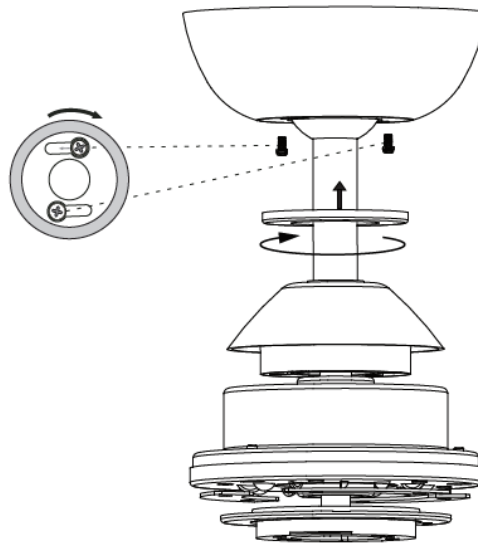

Fig. 13
- Loosen the two screws at the bottom of the mounting bracket by half a thread. **(Fig. 13)**
- Slide the canopy up to the mounting bracket and align the key holes on the canopy with the screws on the mounting bracket. Turn the canopy until it locks into place with the narrow section of the key holes and secure it by tightening the two screws. Avoid damaging the electrical wiring prepared previously. **(Fig. 13)**
- Slide the canopy cover up to the canopy by turning clockwise **(Fig. 13)**